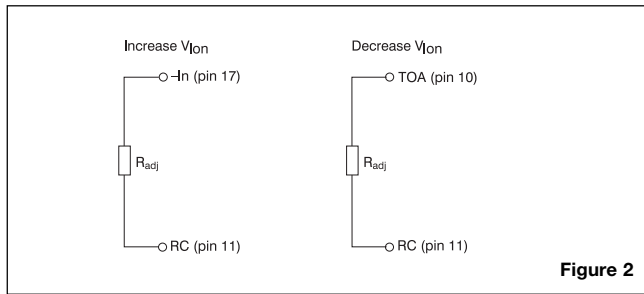

Figure 2
**To increase  $V_{Ion}$**  a resistor should be connected between pin 11 and 17 (see fig.2).